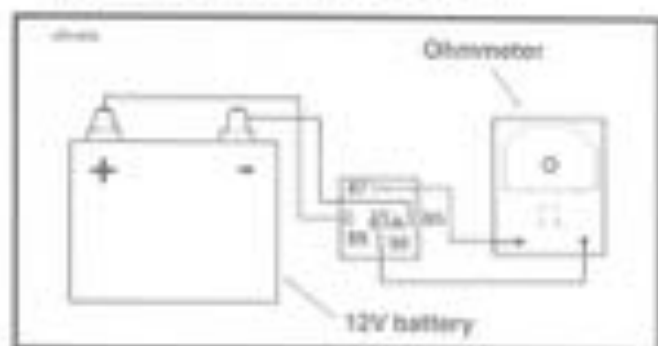

Figure 5-3. Starter Relay Test
4. See Figure 5-3. Obtain a 12 volt battery and a continuity tester or ohmmeter. Connect the battery leads to the 80 and 85 terminals to energize the relay. Check for continuity between the 30 and 87 terminals. A good relay shows continuity; continuity tester lamp "on" or a zero ohm reading on the ohmmeter. A malfunctioning relay will not show continuity and must be replaced.